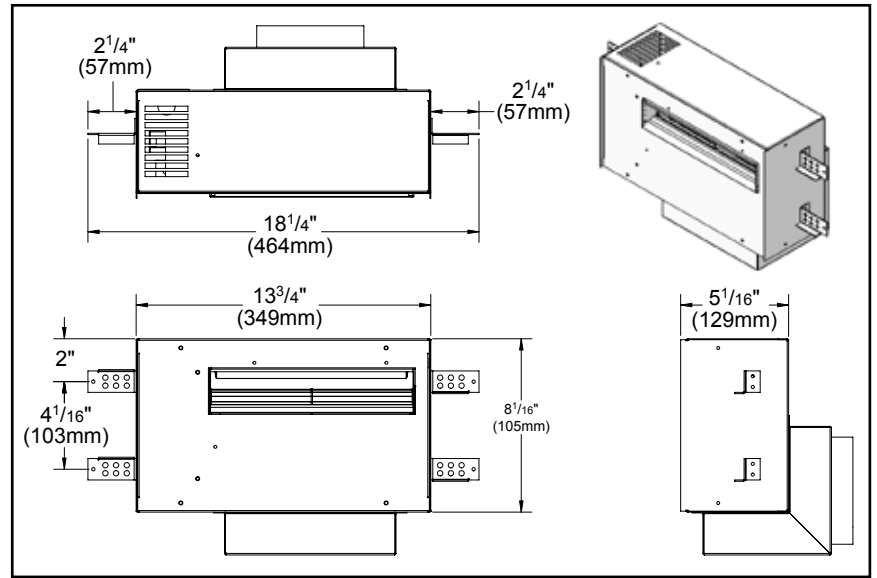
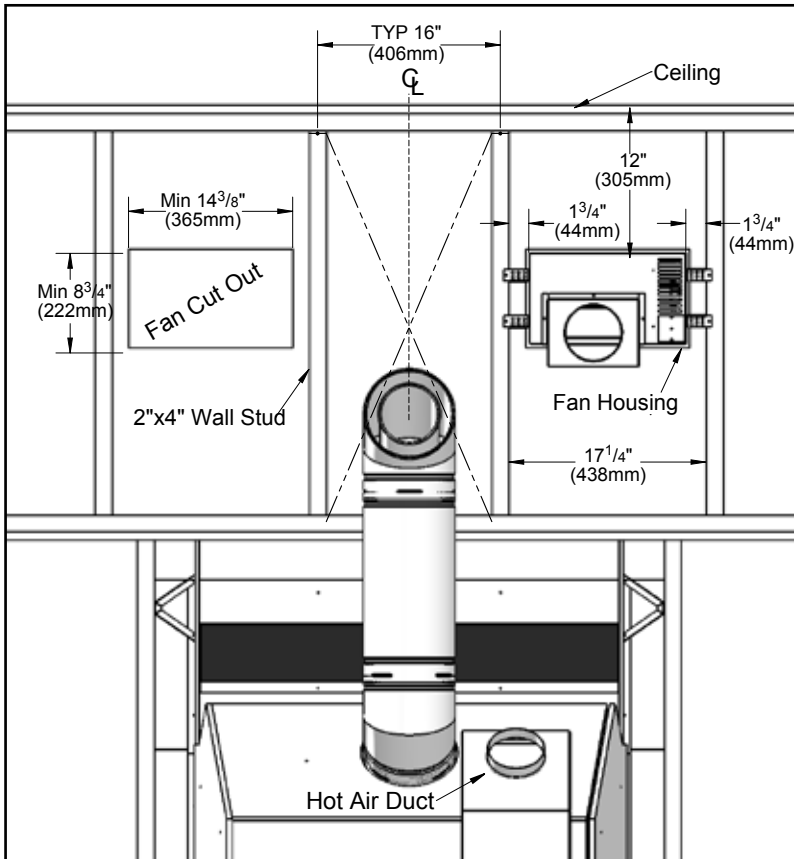

Figure 5: Fan housing overall dimensions.
Figure 6: Minimum Installation Clearances for Fan.
4. With the "FIGURE 5: FAN HOUSING OVERALL DIMENSIONS." and "FIGURE 6: MINIMUM INSTALLATION CLEARANCES FOR FAN."